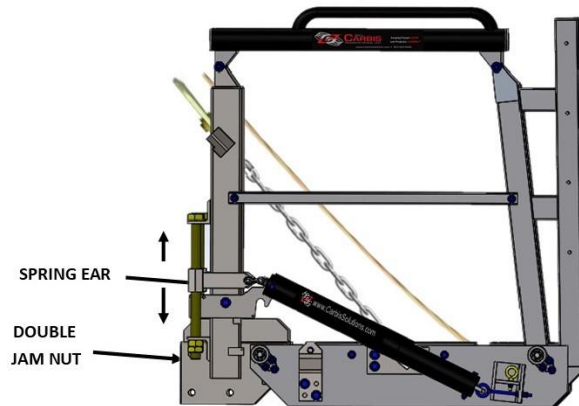
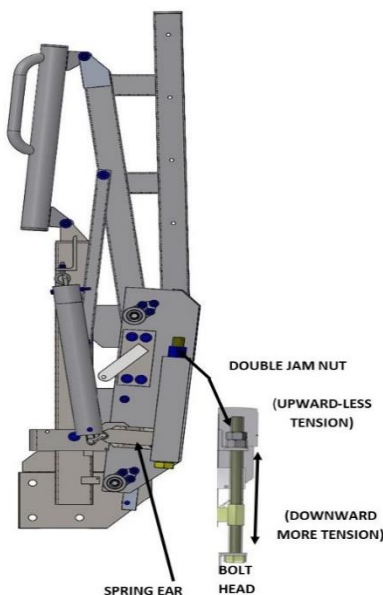

FIGURE 6-2 ADJUST VIEW FOR TCGs HAVING 4 OR MORE STEPS
FIGURE 6-3 TCG 3-STEP GANGWAY ADJUSTMENT PERFORMED IN STORED POSITION (CUT AWAY VIEW)
*** Springcounterbalance system adjustment may be required for adjusting the amount of force necessary for the return of the gangway to the stored position. The springs are factory set for the gangway weight and any purchased options. These could include a seatainer end tread and/or a cage. All purchased options must be installed, and springs adjusted prior to use for the springs to properly function. See Figure 6-2 for TCGs with 4 steps or more or Figure 6-3 for a TCG with 3 Steps for adjustments procedures reference.**